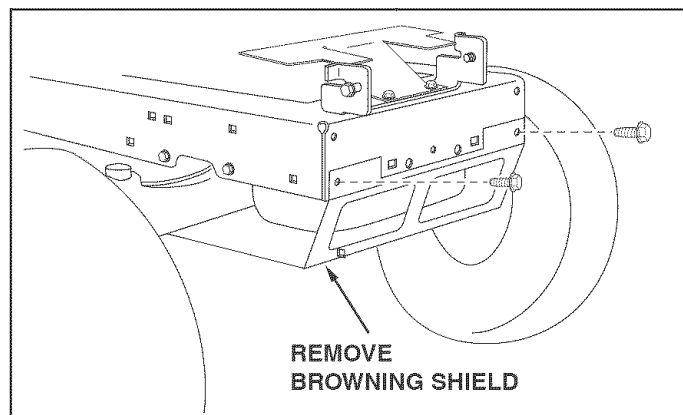

FIGURE 2
### STEP 2: (SEE FIGURE 2)
- Fasten the R.H. side plate (bend facing out) to the front three holes indicated in the tractor frame. Use three 3/8" x 1" carriage bolts (J) and three 3/8" nylock nuts (Q). Fasten the rear of the side plate to the frame using a 5/16" x 1" carriage bolt (L) and a 5/16" nylock nut (V). If there is an engine mounting plate (shown with dotted lines) that prevents the side plate from resting flat against the tractor frame, use three large 1/2" washers (CC) as shims between the side plate and the frame. Tighten all bolts. Repeat for the L.H. side plate.
- Reinstall the browning shield removed in figure 2.